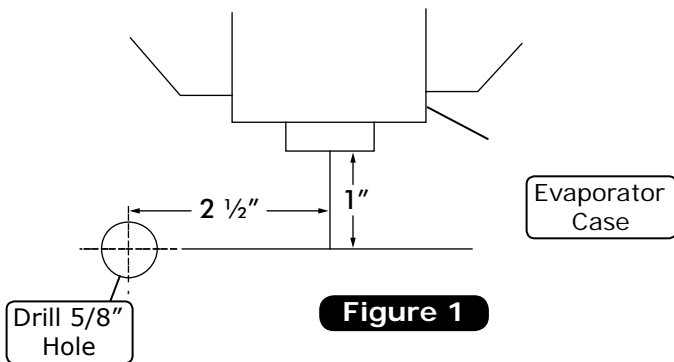

Figure 1
2. In line with the drain, lightly make a mark on the firewall. Measure 1" down and 2 1/2" to the left. Drill a 5/8" hole through the firewall (See Figure 1, below).